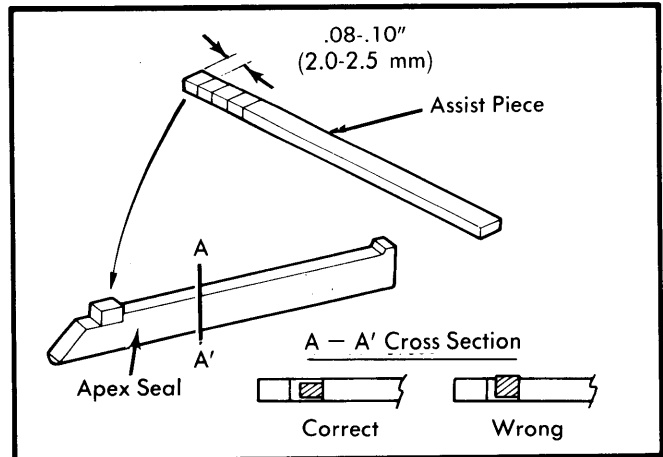

Fig. 18 Installing Assist Piece on Apex Seal
**NOTE** — Before installing apex seal, cut the assist piece with a knife to a length of .08-.10" (2.0-2.5 mm). Peel off paper and install assist piece on apex seal, Fig. 18.